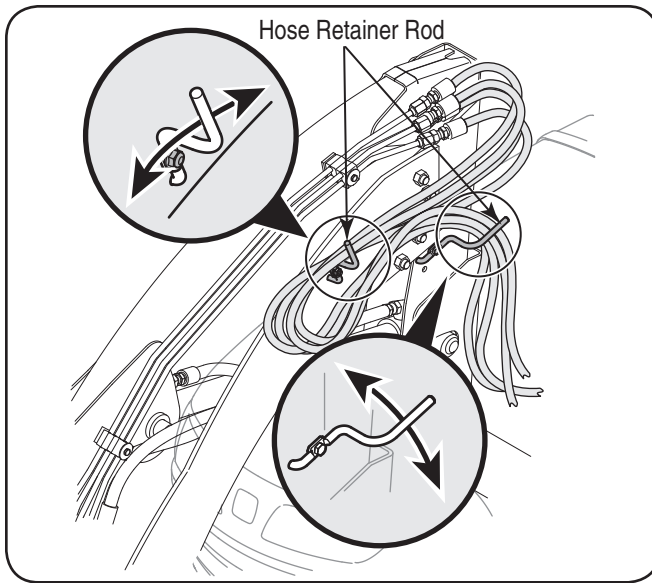

Figure 10
- Route the hydraulic hoses forward along the inside of the RH loader hitch arm and place the hoses between the loader arm and the hook of the hose retainer rod; then loop the hoses rearward and place the hoses between the RH loader mast and the second hose retaining rod. Refer to Figure 10.
WARNING! Do not operate unless all control lever positions function as instructed in Figure 10.